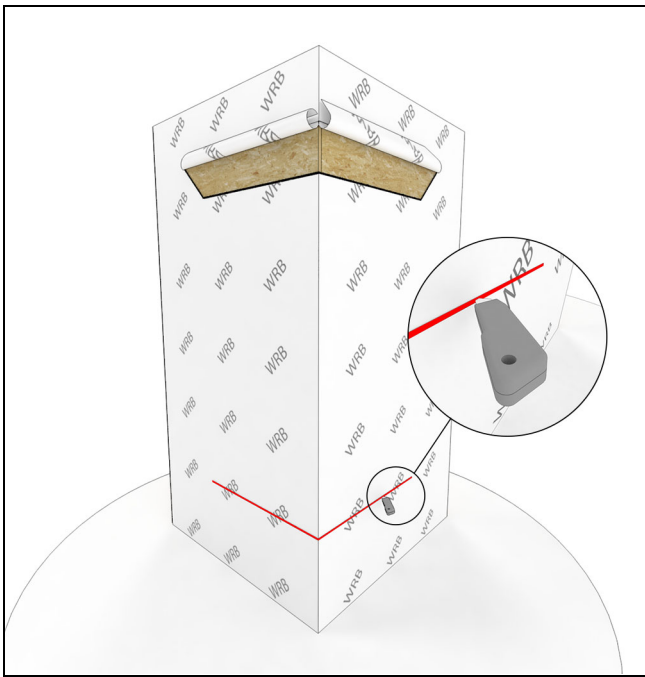

Figure 7
6. Cut the air barrier across the sill. See Figure 7